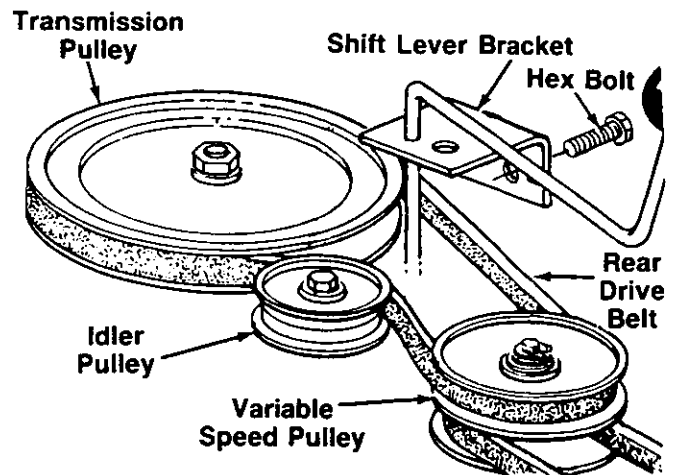

FIGURE 25.
3. Push the idler pulley toward the right side of the unit. Lift the belt over the idler pulley. See figure 25.
5. Remove the two bolts which hold the shift lever bracket to the frame on the left side of the unit. Swing the bracket toward the right so the belt can be removed from the transmission pulley. See figure 25.